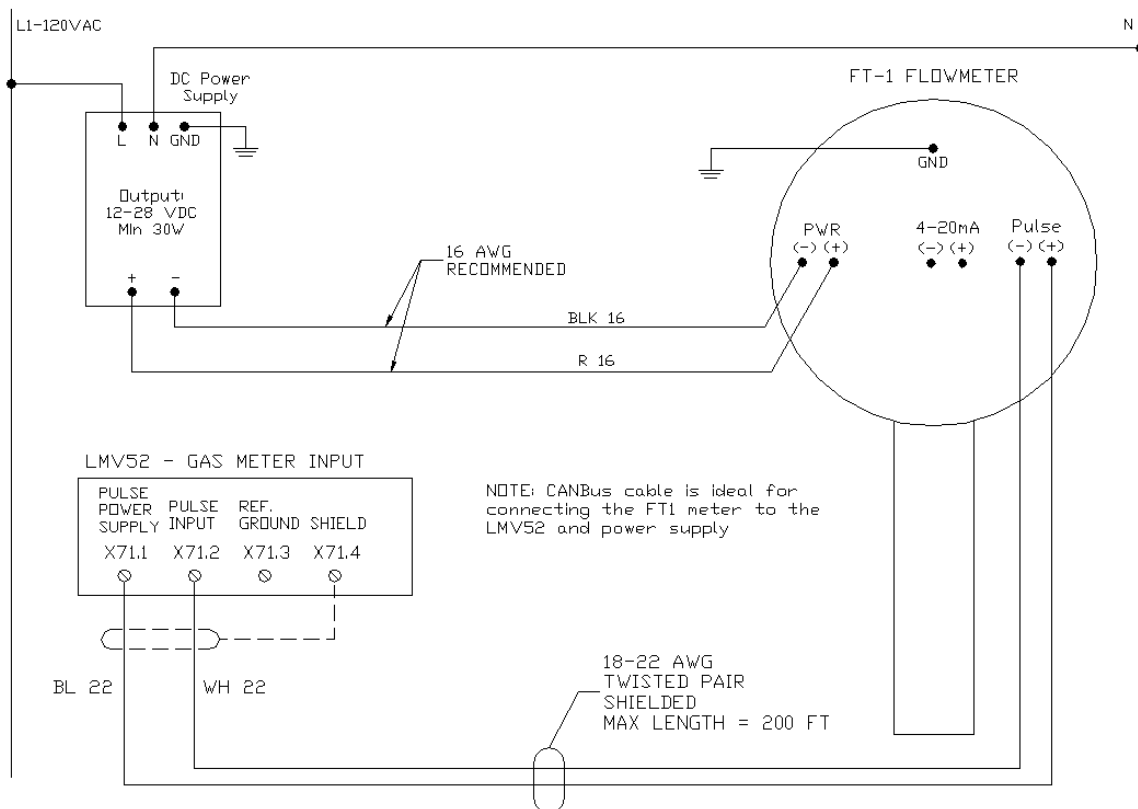

Figure 9: Electrical Connections between an FMP... Flow Meter and an LMV52 Burner Control
- LMV52 using the pulse output – Figure 9